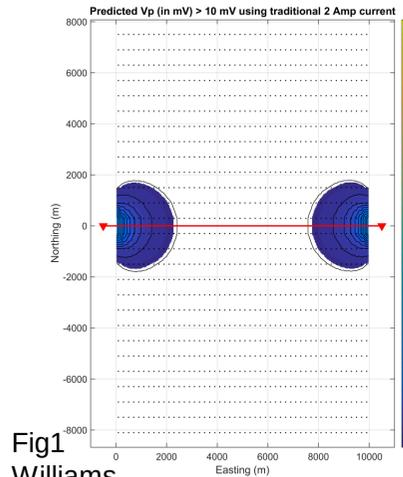

Fig1 Williams
- S/N includes many sources but these are not the subject for this talk. The most important factor is the amplitude of V_p which is a function of the current injected into AB. We require at least $V_p=10\text{mV}$ for reliable IP data (Fig 1&2).